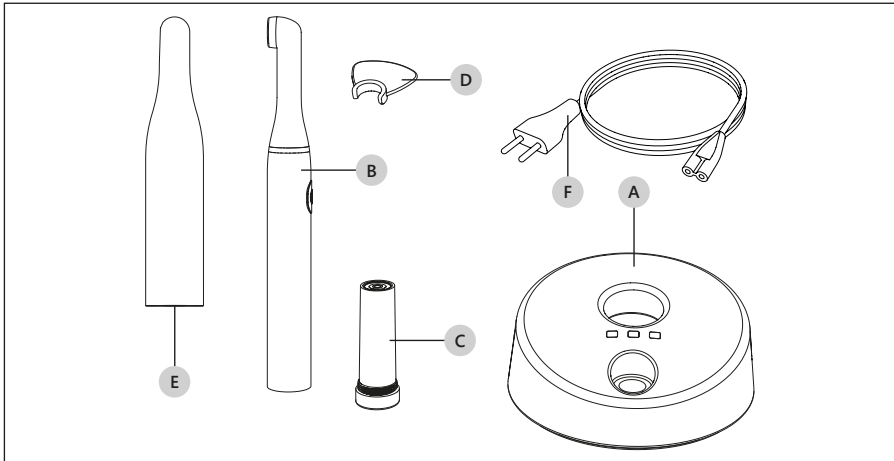
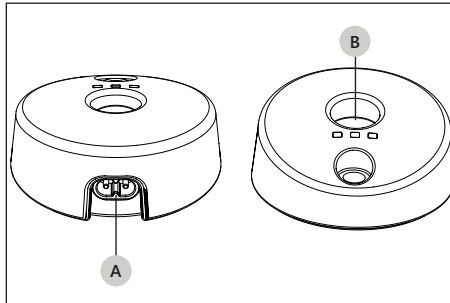

Figure 5 – List of Components
Figure 6 – Charging unit.
ⓘ CAUTION: Recharge the battery only with the Mectron charging unit (*Figure 5 at page 8 - Ref. A*). Do not attempt to recharge the battery using a generic battery charger. This entails a risk of explosion and fire.
Refer to Figure 5 at page 8:
⚠ WARNING: Do not introduce metal objects into the handpiece housing in the charging unit (Figure 6 at page 10 - Ref. B) when the device is on.
2. Plug the power cable (Figure 5 at page 8 - Ref. F) into the connector on the back side of the charging unit (Figure 6 at page 10 - Ref. A) and then into the power outlet. The green power LED should light up (Table 1 at page 11 - Ref. A).
1. Place the handpiece into its housing in the charging unit (Figure 6 at page 10 - Ref. B). The yellow battery LED will light up (Table 1 at page 11 - Ref. B).
1. Place the handpiece into its housing in the charging unit (Figure 6 at page 10 - Ref. B). The yellow battery LED will light up (Table 1 at page 11- Ref. B).
⚠ CAUTION: Recharge the battery only with the Mectron charging unit (Figure 5 at page 8 - Ref. A). Do not attempt to recharge the battery using a generic battery charger. This entails a risk of explosion and fire.